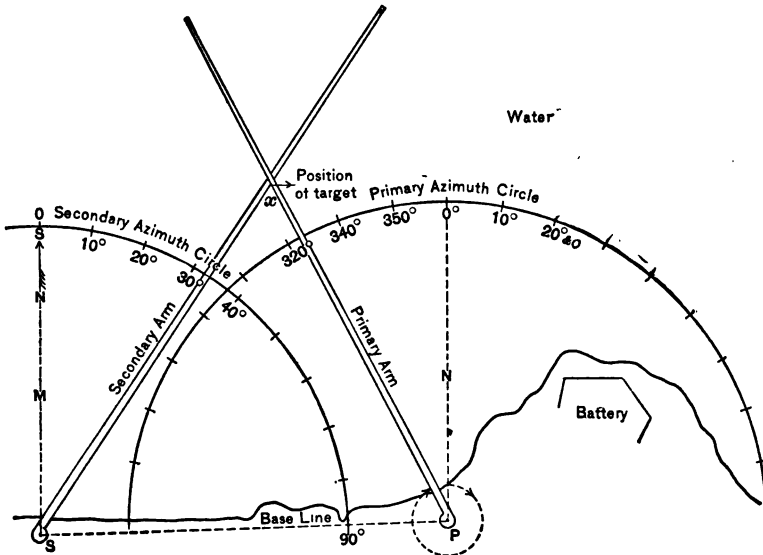

FIG. 59.
A. See Figs. 59, 60, 61, and 62. These figures show by steps the "evolution of the Plotting Board."